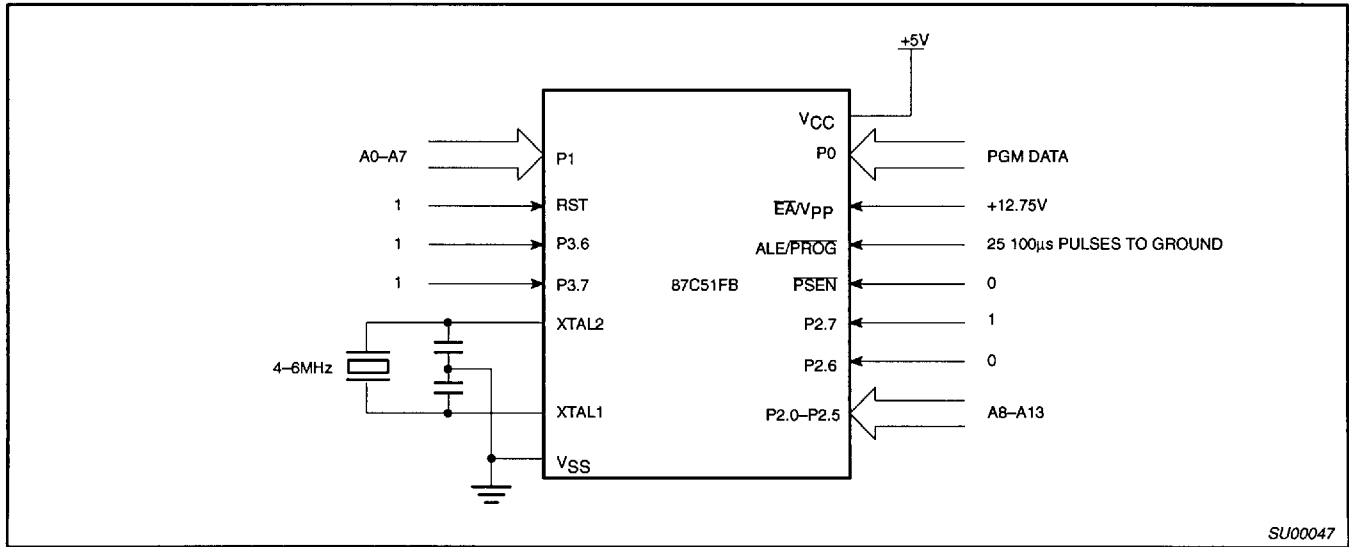
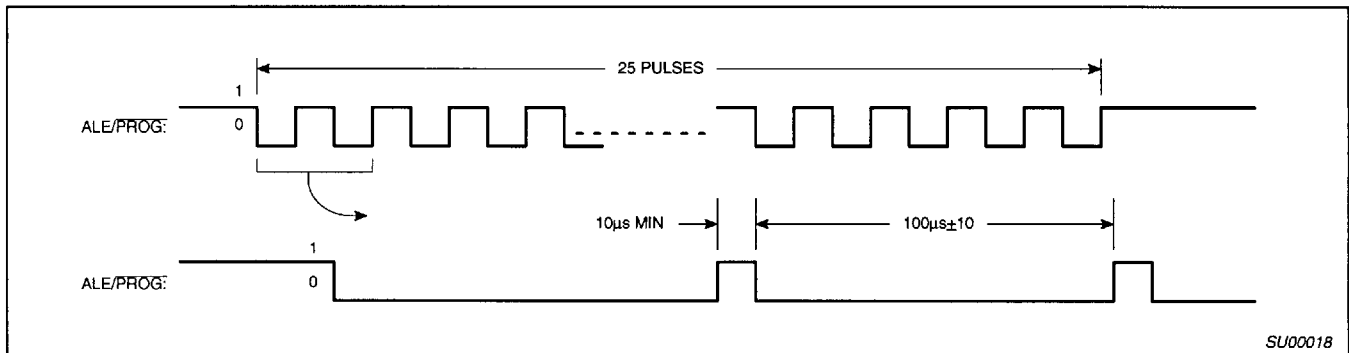
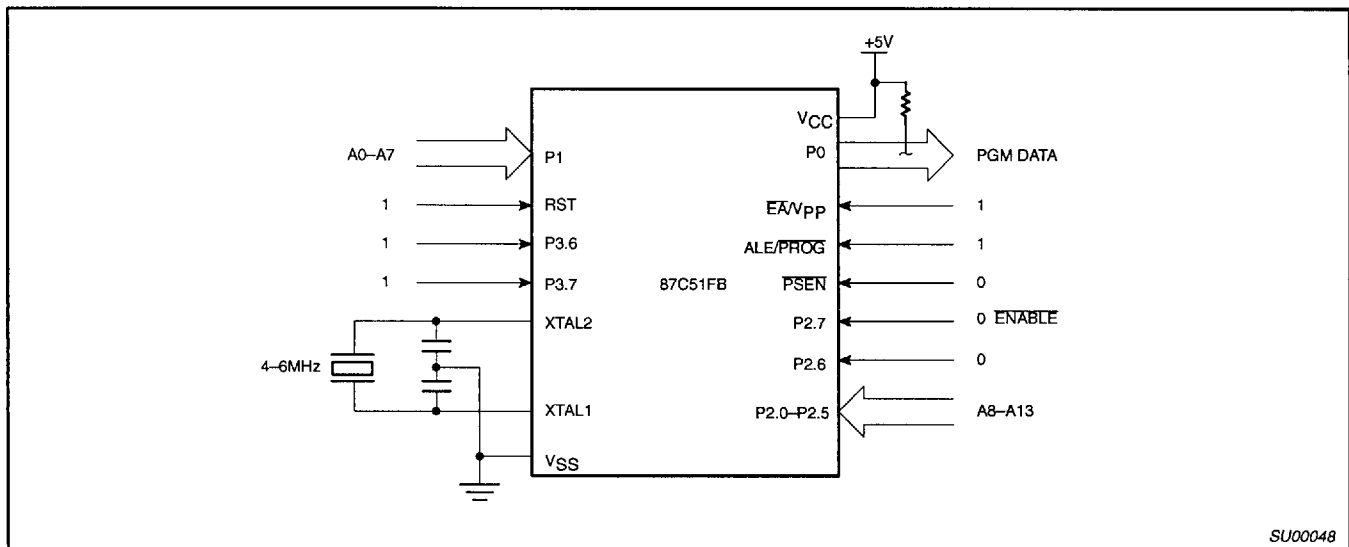

Figure 28. Programming Configuration
Figure 29. PROG Waveform
Figure 30. Program Verification
Table 3 shows the logic levels for reading the signature byte, and for programming the program memory, the encryption table, and the security bits. The circuit configuration and waveforms for quick-pulse programming are shown in Figures 28 and 29. Figure 30 shows the circuit configuration for normal program memory verification.
The setup for microcontroller quick-pulse programming is shown in Figure 28. Note that the 87C51FB is running with a 4 to 6MHz oscillator. The reason the oscillator needs to be running is that the device is executing internal address and program data transfers.
The address of the EPROM location to be programmed is applied to ports 1 and 2, as shown in Figure 28. The code byte to be programmed into that location is applied to port 0. RST, PSEN and pins of ports 2 and 3 specified in Table 3 are held at the 'Program Code Data' levels indicated in Table 3. The ALE/PROG is pulsed low 25 times as shown in Figure 29.
If security bit 2 has not been programmed, the on-chip program memory can be read out for program verification. The address of the program memory locations to be read is applied to ports 1 and 2 as shown in Figure 30. The other pins are held at the 'Verify Code Data' levels indicated in Table 3. The contents of the address location will be emitted on port 0. External pull-ups are required on port 0 for this operation.
* FOR PROGRAMMING VERIFICATION SEE FIGURE 28.
FOR VERIFICATION CONDITIONS SEE FIGURE 30.